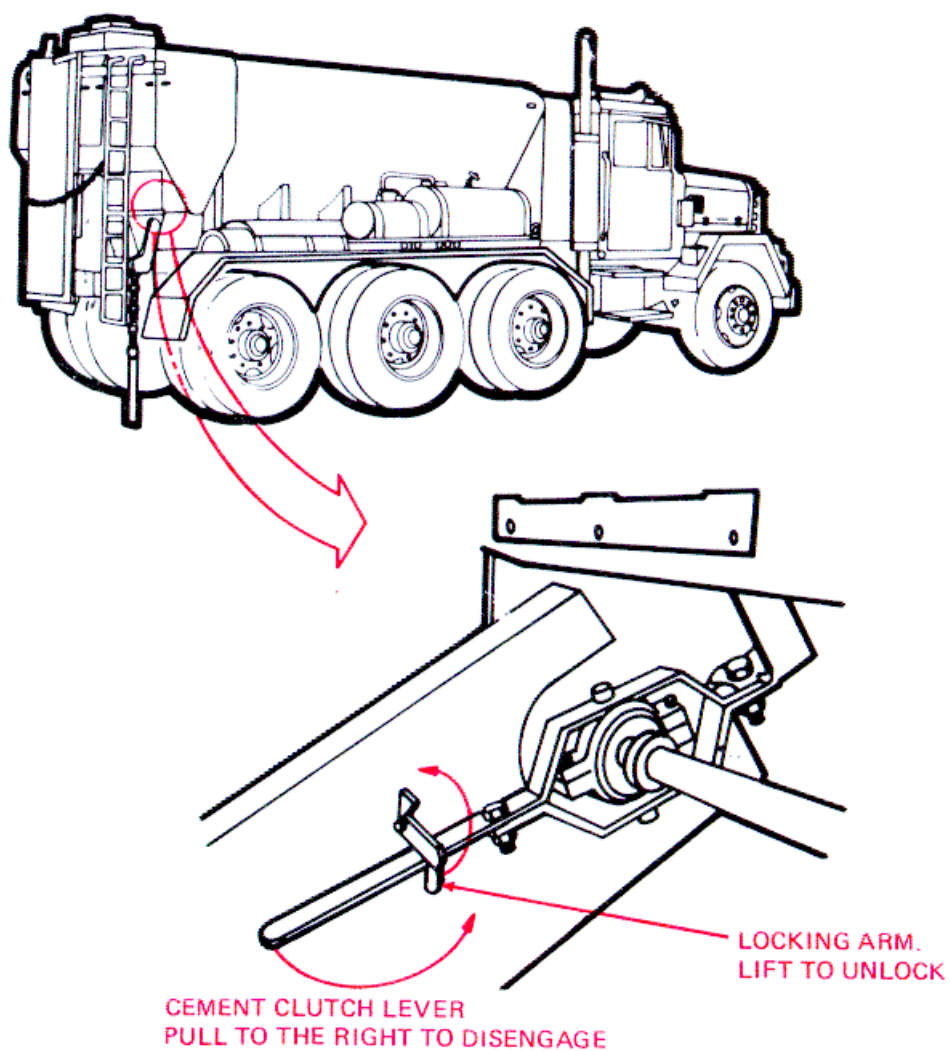

Figure 3-15. Cement Bin Clutch.
- (1) Lift the locking arm on the cement clutch (fig. 3-15). Pull the clutch lever to the right to disengage the clutch.
Some cement will already be on the belt. However, no new cement should be delivered. If the meter register turns after you engage the main clutch, stop operation. Check that the cement clutch is fully disengaged (fig. 3-15).
- (8) Engage the cement bin clutch (fig. 3-15). Push to the left, then lower the locking arm.